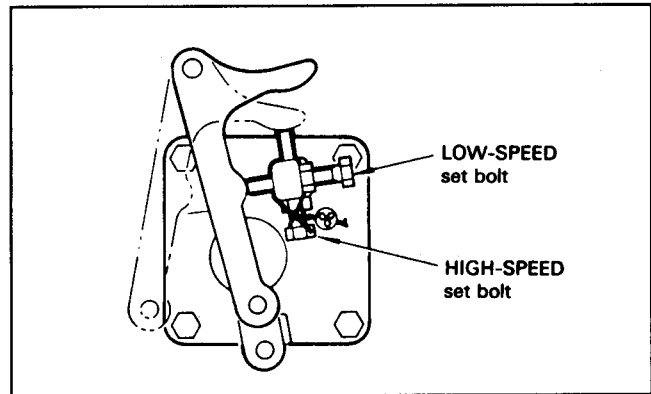

Figure 12
3. Loosen the lock nut on the high speed set bolt (Fig. 12).
3. Loosen the lock nut on the low speed set bolt (Fig. 12).